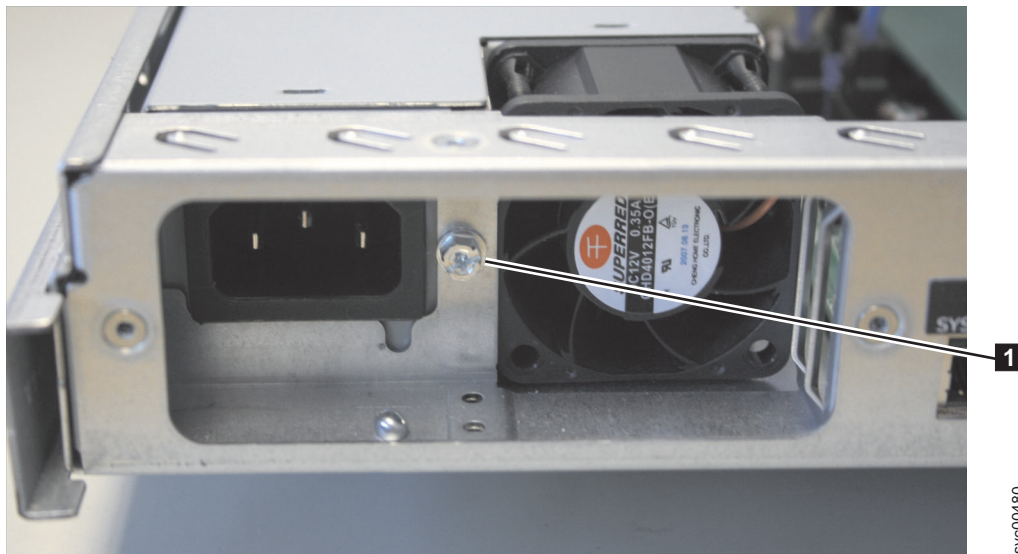

Figure 25. Retaining screw on the SAN Volume Controller 2145-8A4 node
2. Unscrew the retaining screw **1** that is located next to the power cable socket three full turns, but do not fully remove the screw, as shown in Figure 25.